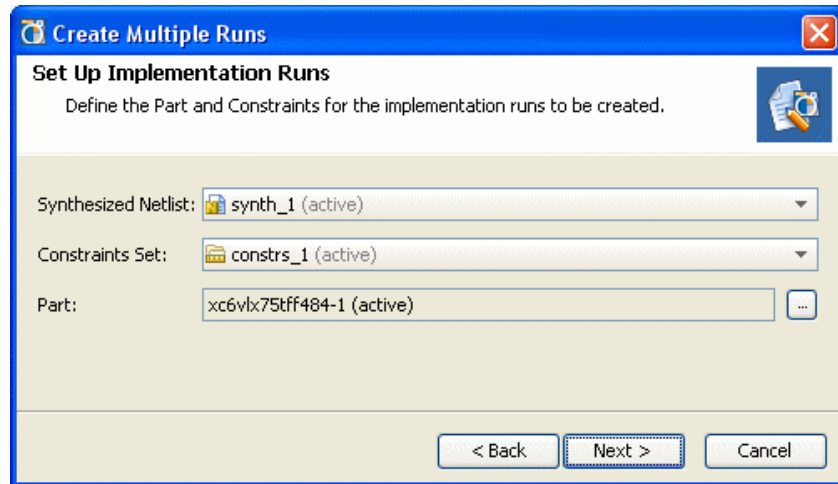

Figure 9-18: Create Multiple Runs Dialog Box
2. Click **Next**, and the Set Up Implementation Runs pane opens as shown in Figure 9-18, page 288.